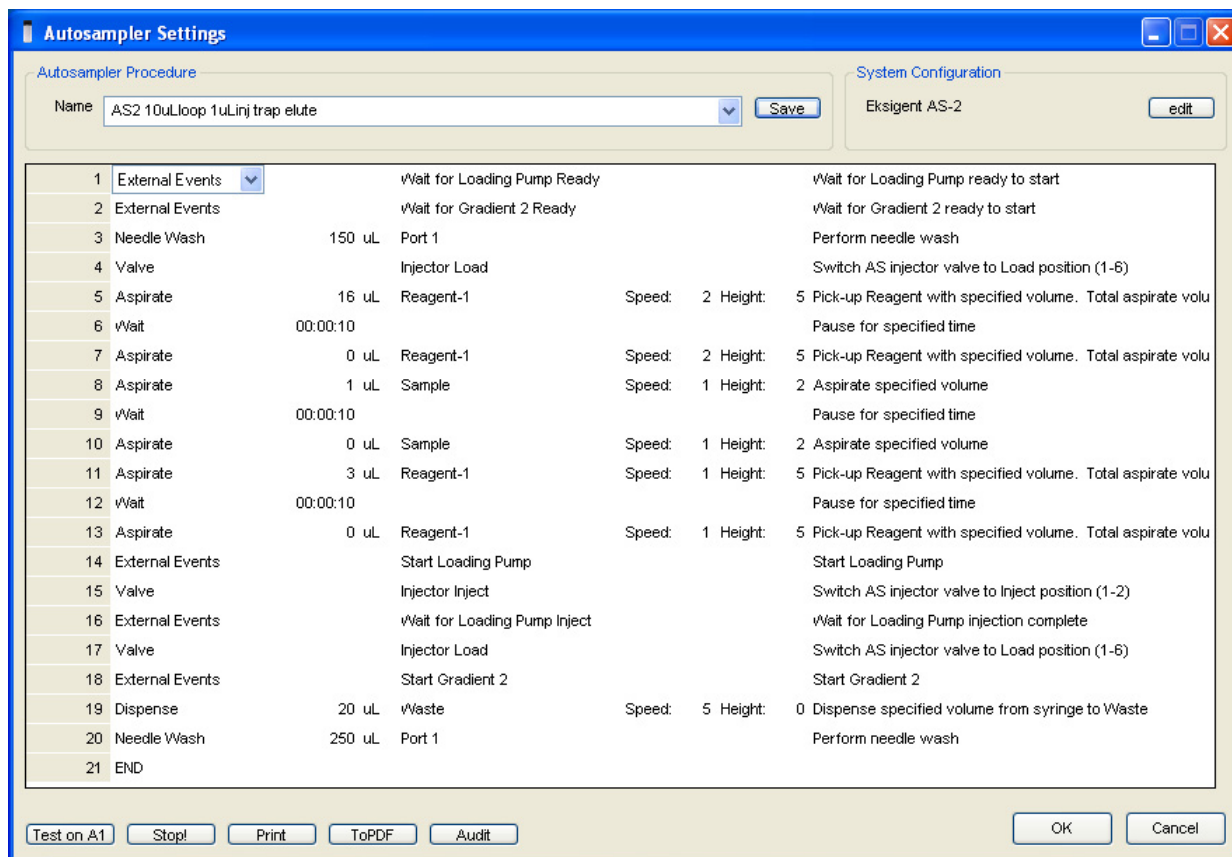
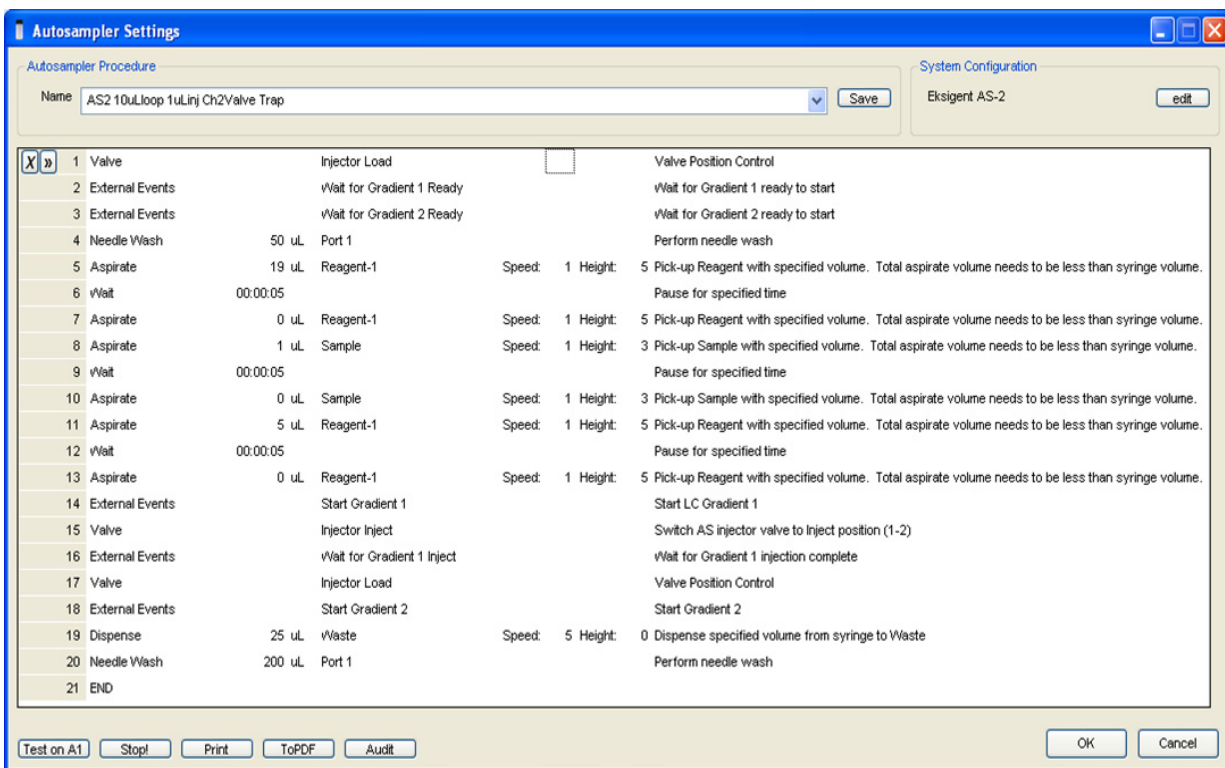

Figure 3-1 Autosampler Settings dialog—trap-elute configuration (Nanoflex system)
Figure 3-2 Autosampler Settings dialog—trap-elute configuration (column)
3. Create the autosampler method for a trap-elute configuration, as shown in Figure 3-1 or Figure 3-2, depending on the installation.